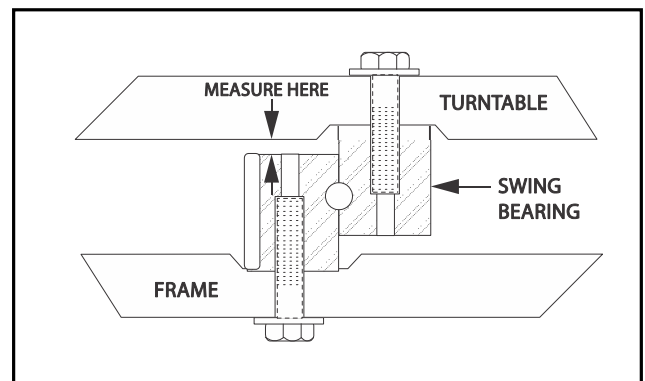
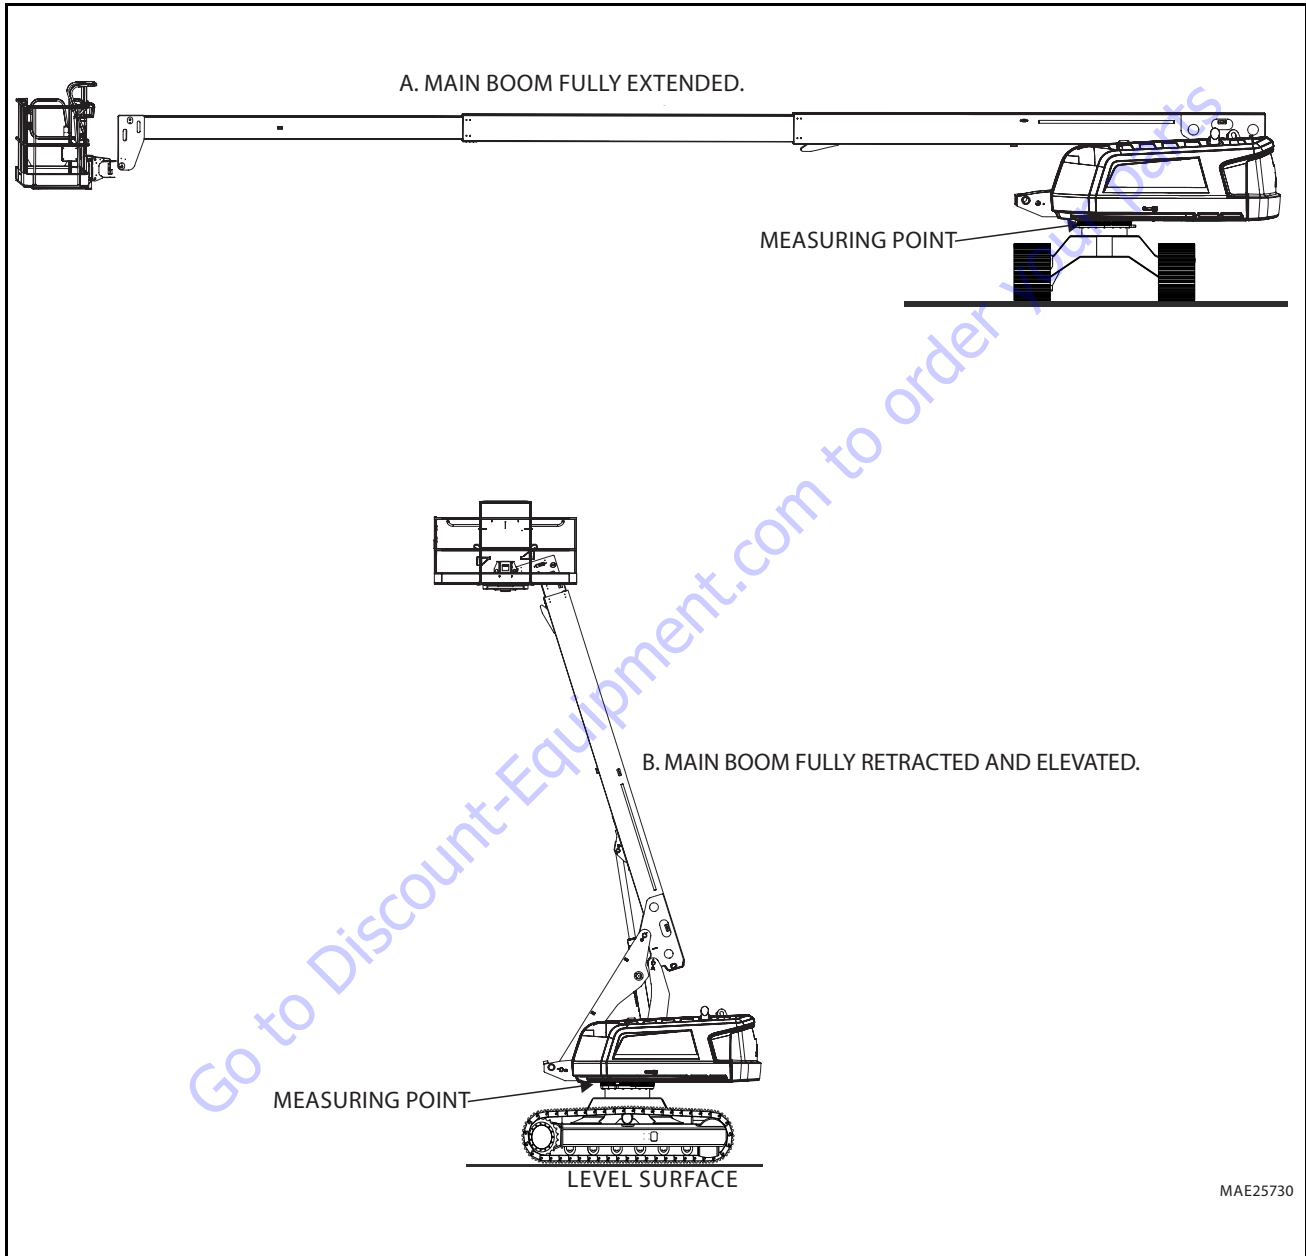

Figure 3-11. Swing Bearing Tolerance Measuring Point
Figure 3-12. Swing Bearing Tolerance Measurement Location & Boom Placement
1. From underside of the machine, at rear center, with the boom fully elevated and fully retracted, as shown in Figure 3-12., Swing Bearing Tolerance Measurement Location & Boom Placement A, using a magnetic base dial indicator, measure and record distance between swing bearing and turntable as shown in Figure 3-11., Swing Bearing Tolerance Measuring Point.
2. At the same point, with the boom horizontal and fully extended, as shown in the Figure 3-12., Swing Bearing Tolerance Measurement Location & Boom Placement B, using a magnetic base dial indicator, measure and record distance between swing bearing and turntable as shown in Figure 3-11., Swing Bearing Tolerance Measuring Point.